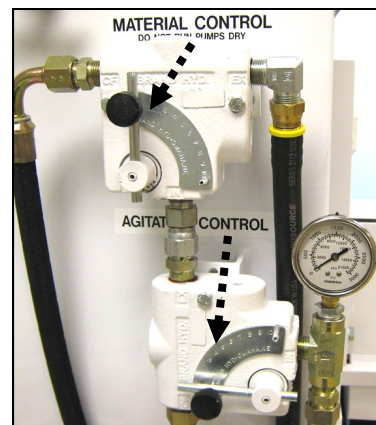

Fig. 2 Material & Agitation Controls
2. Set both Flow Controls at the '0' (off) dial position (See Fig. 2)